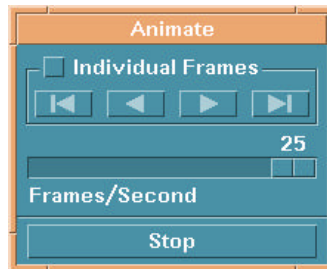

Figure 5.8.2 Animate
- Select PLAY. The tools with defined velocity will move and a dialog window (Figure 5.8.2) is displayed to allow the user to change the play mode.